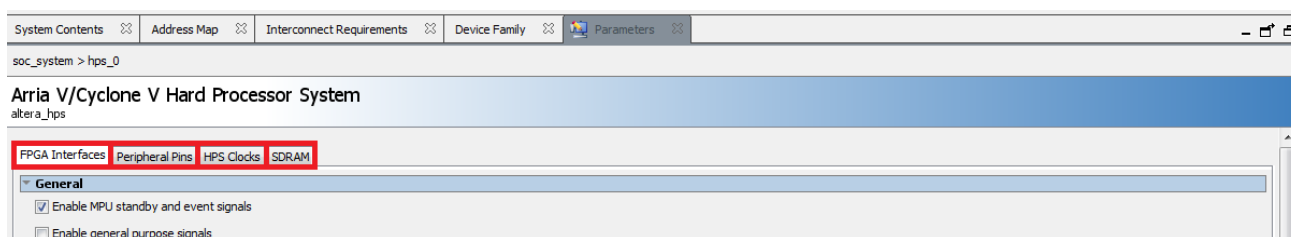

Figure 7-4. HPS Component Parameters
16. Open the HPS' parameters and have a look around. There are 4 tabs that control various aspects of the HPS' behaviour, as shown on Figure 7-4.